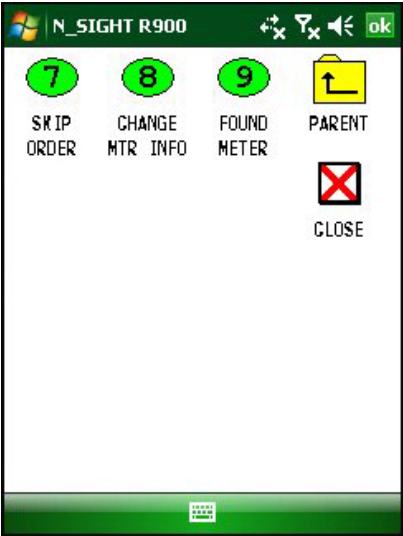

Figure 6.38 N\_SIGHT R900 Meter Process Menu
- The **Meter Process Menu** appears as illustrated in Figure 6.38.